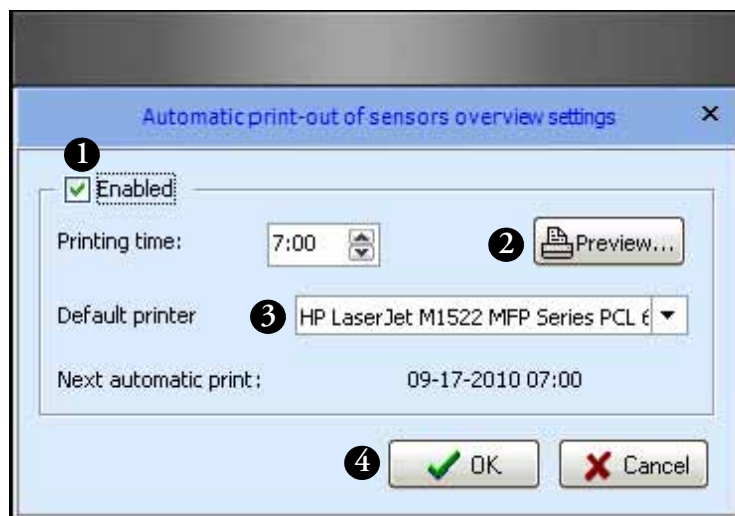

Figure 109. Automatic print-out settings
3. Click the Enabled checkbox (#1 in Figure 109) to enable automatic daily printing.